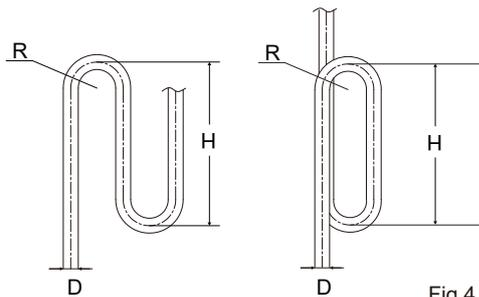

Fig 4.11
- When the outdoor unit is above the indoor unit, and the level difference exceeds 20 m, it is recommended that an oil return bend be set up at every 10 m interval on the gas pipe of the main piping. The recommended specifications of the oil return bend are as shown in figure 4.11.
Requirement : The largest level difference between indoor unit and outdoor unit should not exceed 25m (if the outdoor unit is above) or 20m (if the outdoor unit is below). Additionally: If the outdoor unit is above and the level difference is greater than 20m, it is recommended that an oil return bend with dimensions as specified in Figure 4.11 is set every 10m in the gas pipe of the main pipe.